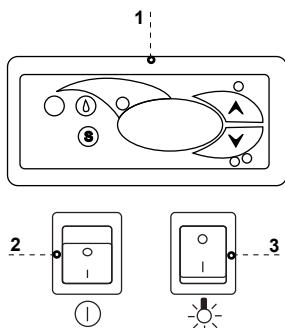

Fig. 7 Control panel
- Turn on the main switch Fig.7/2 (p.17), which shall activate the temperature regulation and then main aggregate of the device.
- Set the temperature on the temperature panel Fig.7/1 (p.17) (details of the thermostat details on p.23 or 24)
- Turn the lighting switch (inside the cabinet and panel) Fig.7/3 (p.17)